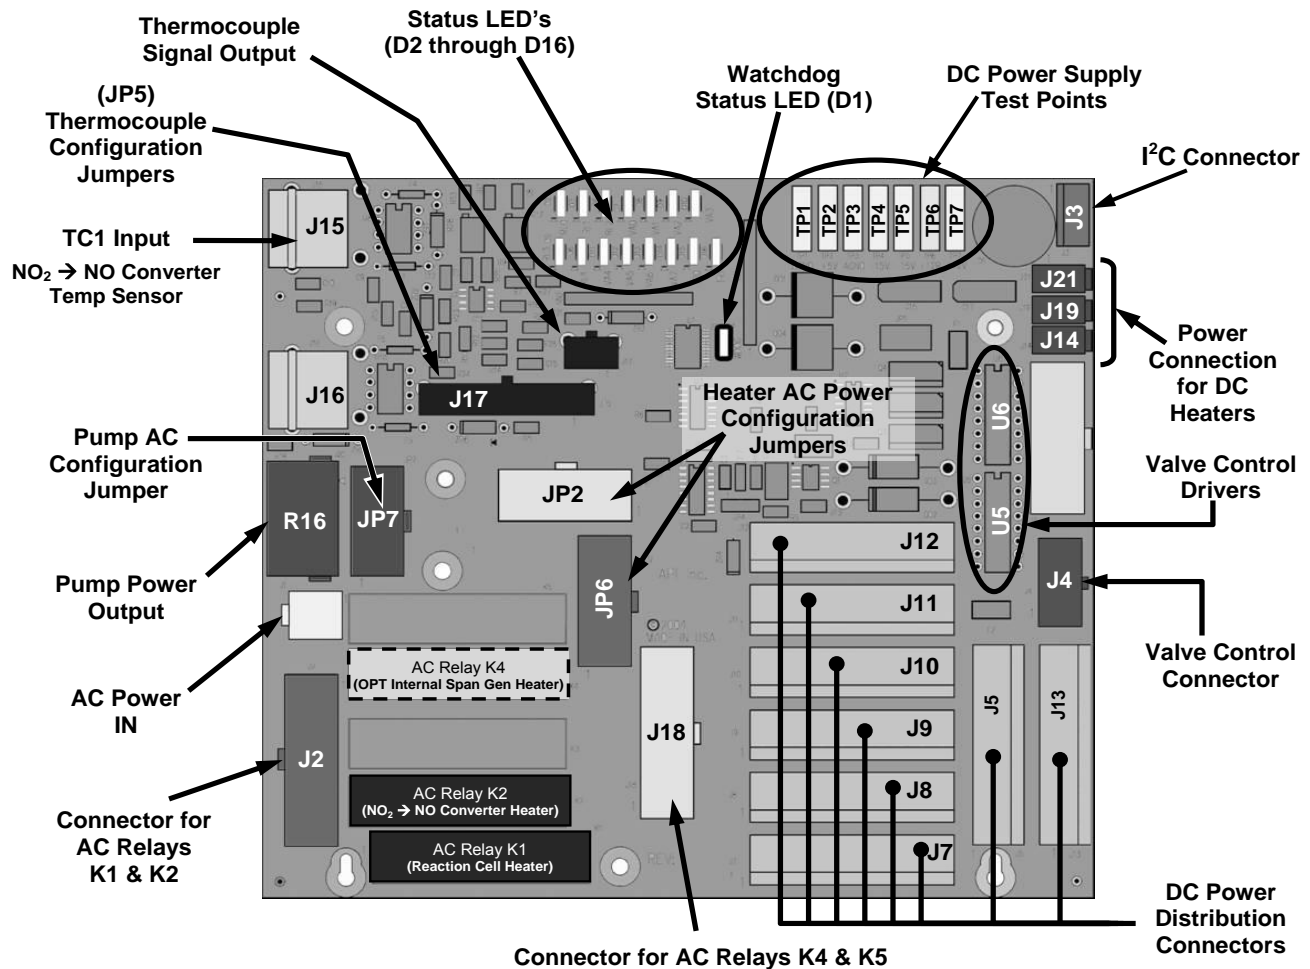

Figure 13-13: Relay PCA Layout (P/N 045230100)
The CPU issues commands via a series of relays and switches located on a separate printed circuit assembly, called the relay PCA (Figure 13-13), to control the function of key electromechanical devices such as heaters and valves. The relay PCA receives instructions in the form of digital signals over the I²C bus, interprets these digital instructions and activates its various switches and relays appropriately.
- TC2 (J16) is currently not used (see Figure 13-13 for location of J15 and J16).